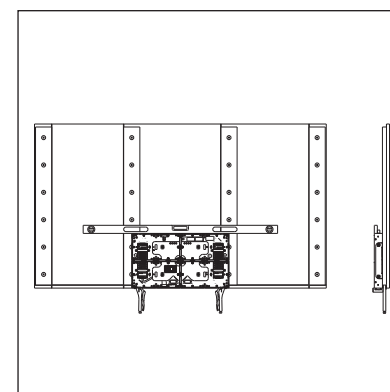

Figure 16: Secure Installation Jigs to Mounting Tube
- b. Use C-clamps to secure the bottom of the installation jigs to the bottom of the mounting tubes. Refer to **Figure 16**.